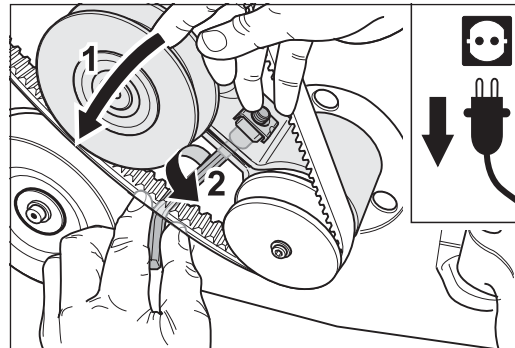

Fig. 112 Tension the suction V-belt by turning the belt tensioner counterclockwise (1 and 2).
- 6 Turn the belt tensioner counterclockwise to tension the suction V-belt (Fig. 112, 1). Keep the belt tensioner in position and tighten the clamping screw at the belt tensioner carefully at the same time (Fig. 112, 2).